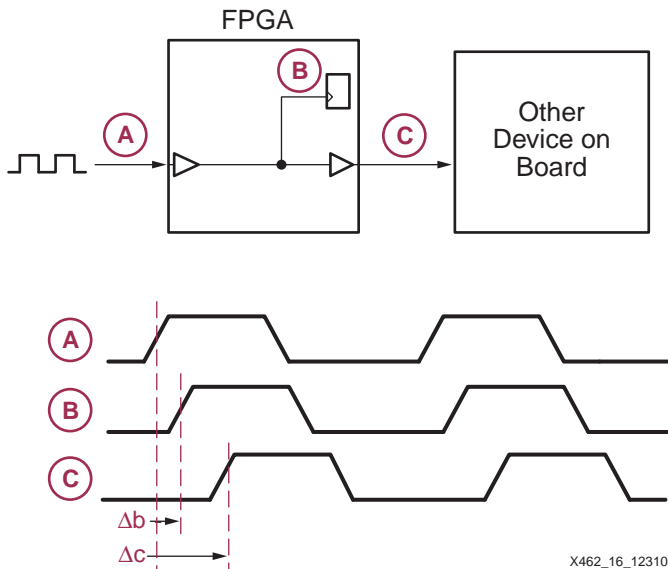
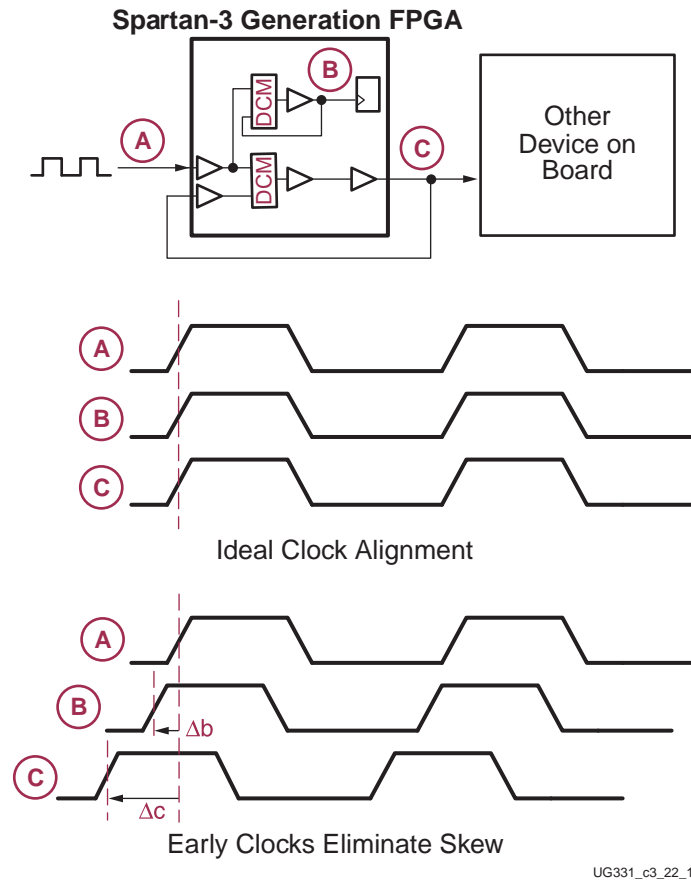

Figure 3-16: Clock Skew Inherently Exists in Every Synchronous System
Figure 3-17: Eliminating Clock Skew in a Spartan-3 Generation FPGA Design
Figure 3-16 illustrates clock skew in an example system. A clock source drives the clock input to an FPGA. The clock enters through an input pin on the FPGA, is distributed within the FPGA using the internal low-skew global clock network, and arrives at a flip-flop within the FPGA. Each element in the clock path delays the arrival of the clock edge at the flip-flop. Consequently, the clock input at the flip-flop—Point (B)—is delayed, or skewed compared to the original clock source at Point (A). In this example, this clock skew or difference in arrival time for this path is called Δb .
Is there a way to eliminate clock skew? Fortunately, a DCM provides such capabilities. Figure 3-17 shows the same example design as Figure 3-16, except this time implemented in a Spartan-3 generation FPGA. Two DCMs eliminate the clock skew: one DCM eliminates the skew for clocked items within the FPGA, the other DCM eliminates the skew when clocking the other device on the board. The result is practically ideal alignment between the clock at Points (A), (B), and (C)!
How is clock skew elimination accomplished? Remember, clock skew is caused by the delay in the clock path. In Figure 3-17, the clock at Point (B) was skewed by Δb and the clock at Point (C) was skewed by Δc . What if there was a way to provide Point (B) with an early version of the clock, advanced by Δb and a way to provide Point (C) with an early version of the clock, advanced by Δc ? The result would be that all clocks would arrive at their destinations with perfect clock edge alignment. Such perfect alignment reduces setup times, shortens clock-to-output delays, and increases overall system performance.
Instead of attempting to determine the Δb and Δc delays in advance, the Spartan-3 FPGA DCM employs a DLL that constantly monitors the delay via a feedback loop, as shown in Figure 3-17. In this particular example, two DCMs are required—one to compensate for the clock skew to internal signals and another to compensate for the skew to external devices, each with their own clock feedback loop. The DLL constantly adapts to subtle changes caused by temperature and voltage.